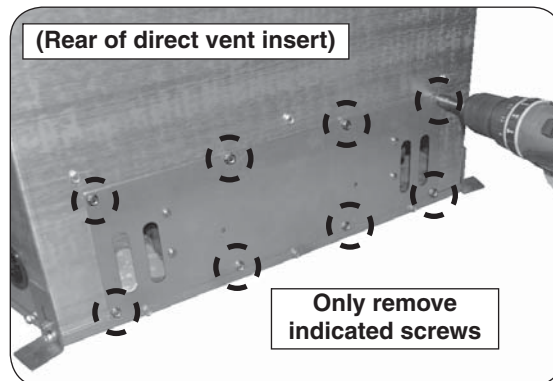

Fig. 55-1 Unfasten rear panel
3. Remove the 8 securing hex screws and the rear panel (fan assembly attached) using a $\frac{5}{16}$ " nut driver or equivalent. See Fig. 55-1.